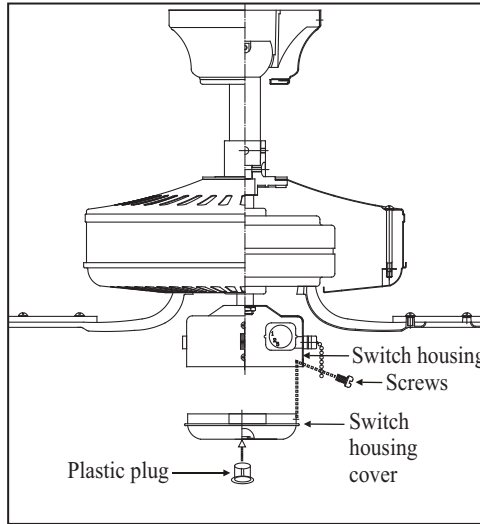

Figure 21
2. Attach the plastic plug to the switch housing cover. (Fig. 21)
3. Install the switch housing to the mounting plate with screws provided. (Fig. 21)